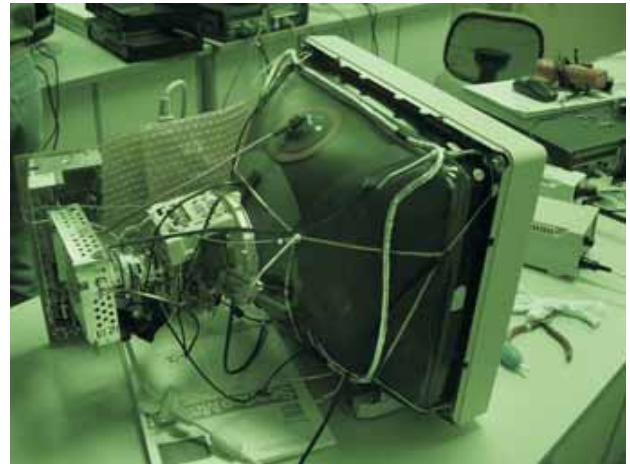

Fig. 8
- reconnect connectors, some wires and panels (chassis), service position can be available for DC/AC measurement as shown in Fig.8 Fig. 9.